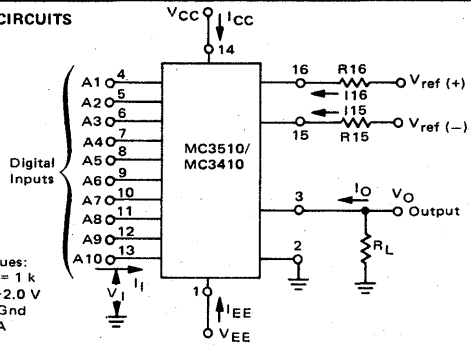

FIGURE 4 – RELATIVE ACCURACY TEST CIRCUIT
1.9 and 2.1 mA to produce a full scale output current of 3.996 mA. The relative accuracy test circuit is shown in Figure 4. The 14-bit D/A converter is calibrated for a full scale output of 3.996 mA. This is an optional step as the relative accuracy of the MC3410 is nearly constant between 3 mA and 5 mA full scale current. The MC3410 is calibrated at full scale with the 14-bit reference D/A by adjusting R16 until the error voltage goes to zero. The counter is activated and the error band may be displayed on an oscilloscope, detected by comparators, or stored on a peak detector.